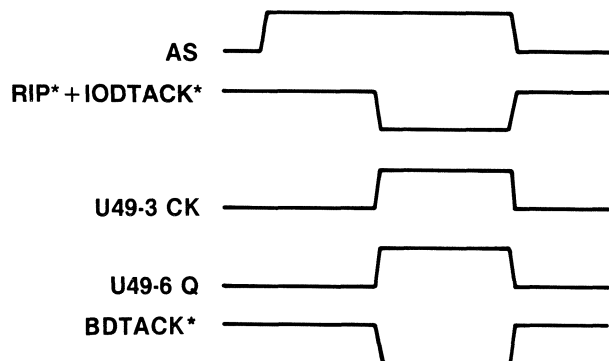

Figure 7-6. Onboard BDTACK Generation
Address Strobe (AS) sets the flip-flop and negates BDTACK* for the next bus cycle. Figure 7-6 shows the timing relationships for onboard BDTACK* generation.